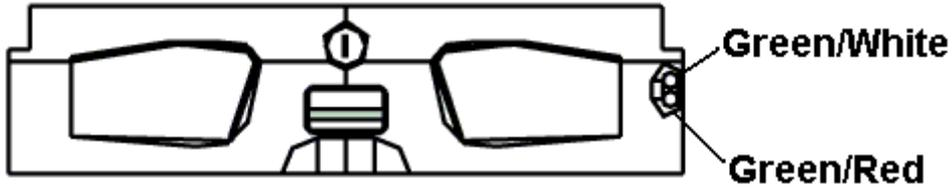

Figure 3-4: Drive Tray LEDs
The drive trays come with two (2) status-indicating LEDs, one that indicates power and the other that indicates hard drive activity. The LEDs are shown in *Figure 3-4* and their definitions in *Table 3-6*.